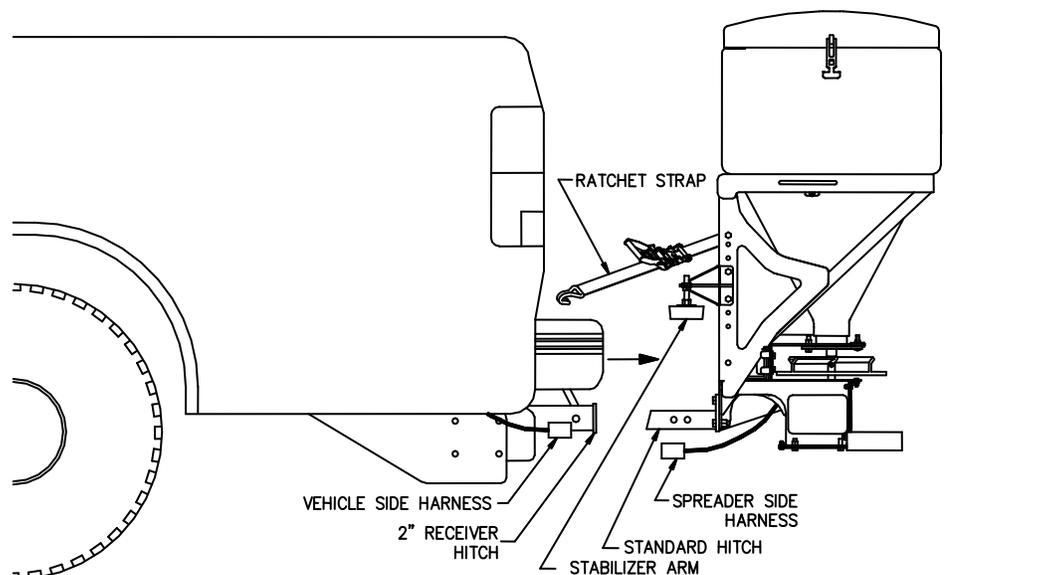

Figure 5. Slide-In Attachment Removal Procedure
2. Refer to Figure 5. Unplug Spreader Side Harness from Vehicle Side Harness and install both the vehicle and spreader side weather caps.
3. Loosen Ratchet Straps (5).
4. Loosen Stabilizer Arms (3) & (4).